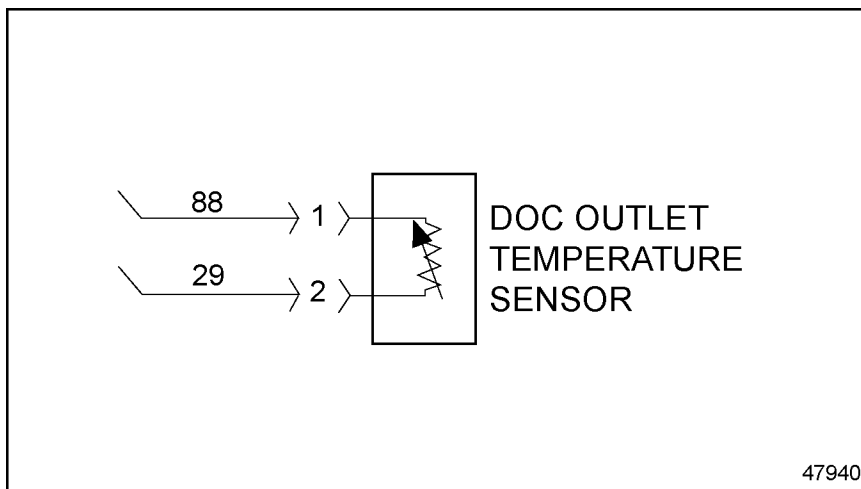

Figure 1 DOC Outlet Temperature Sensor
1. Disconnect DOC Inlet Temperature Sensor and inspect connector for damaged, bent, spread, or corroded pins. If the temperature sensor connector is OK, the connections upstream to the MCM (ATD harness 10-pin connector pin 6, 31-pin VIH connector pin 18 and the 120-pin MCM connector pin 89) must also be checked. See Figure 1.